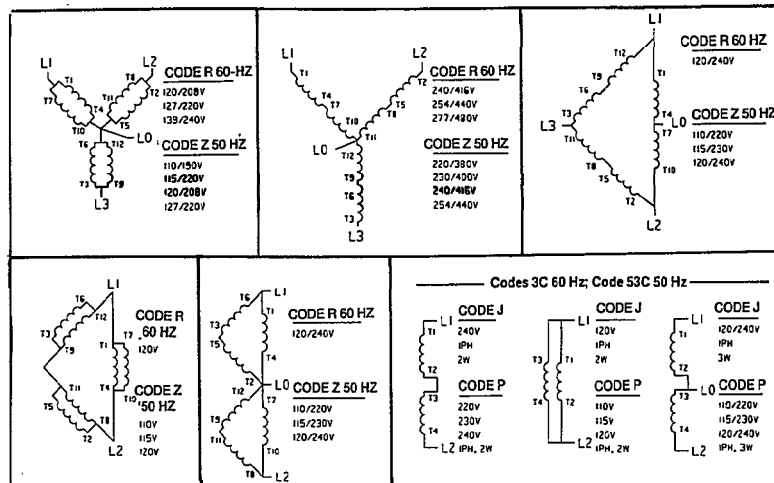

FIGURE 3-4. GENERATOR RECONNECTION DIAGRAMS
- Interconnect the output leads and load leads to obtain the required voltage (Figure 3-4). It should be noted that when a three phase generator is connected for single phase, the output is only 2/3 the three phase kVA rating.
- C. If the voltage is transformer regulated, it is adjusted by moving the taps on the transformer (T21), in accordance with Figure 3-4. Stop the set before reconnecting the taps. Recheck the voltage.